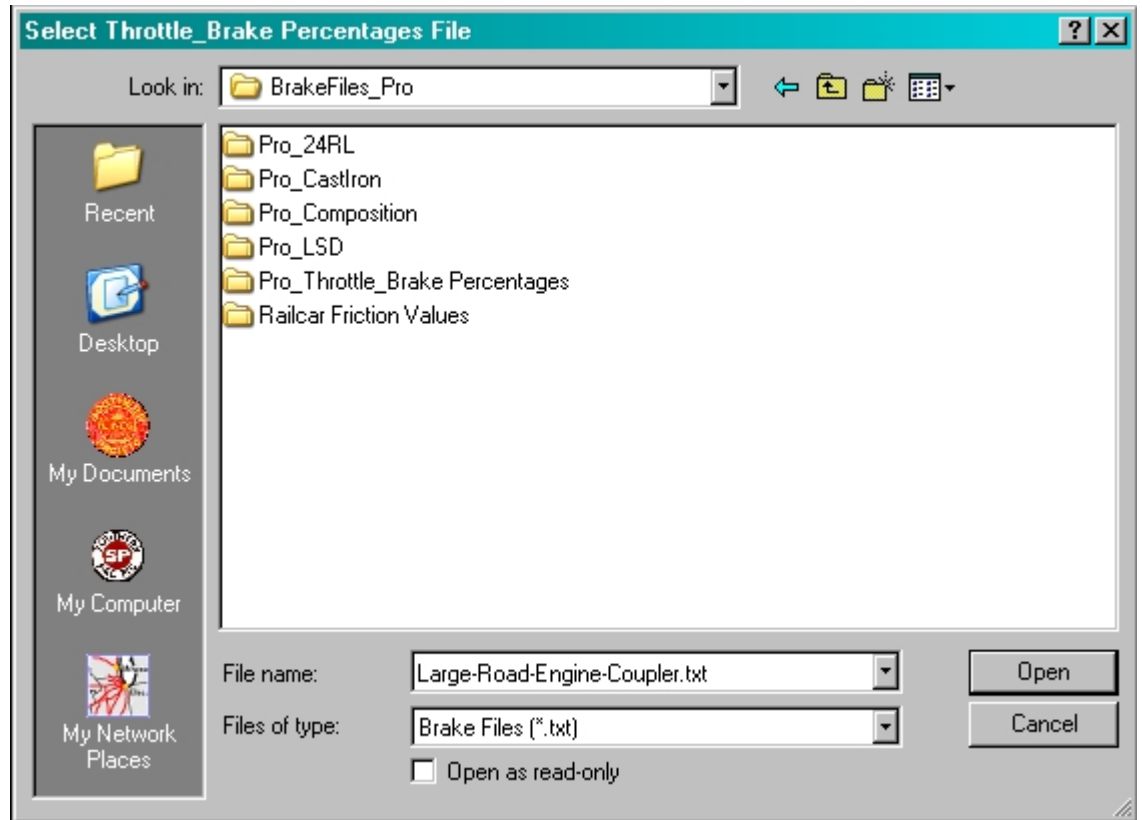

Figure 104
5. In the new window (Fig. 104), we will choose the ***"Pro_Throttle_Brake Percentages"*** by double left-clicking on that folder icon.